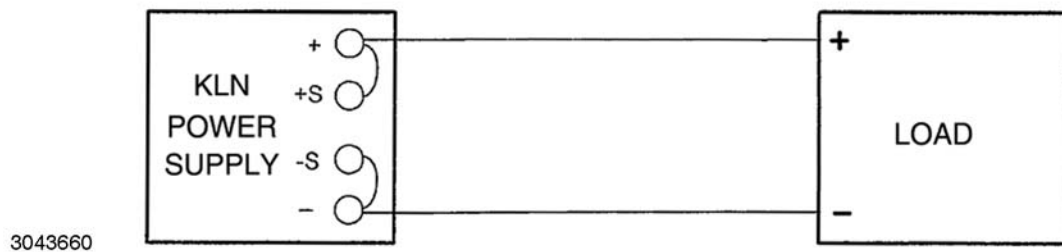

FIGURE 2-11. LOAD CONNECTIONS, LOCAL SENSING
1. With power supply disconnected from source power verify that sense connections are correct: +S is connected to +POS and -S is connected to -NEG (see Figure 2-11).
- **IF LOCAL SENSING IS USED:** Install red and black sense leads supplied (see Figure 2-11).
Figure 2-11 shows a typical configuration using local sensing. Local sensing is recommended for a high noise or switching mode load such as d-c to d-c or d-c to a-c converter.